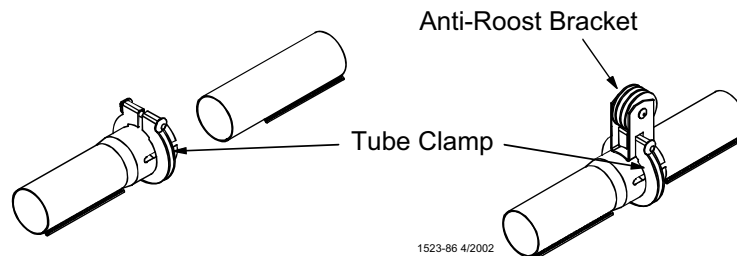

Figure 28. Assembling Feeders on the Tubes
4. Place a Tube Clamp Assembly or Clamp/Anti-Roost Bracket at each joint. **Figure 28** shows the standard Clamp and Clamp/Anti-Roost Bracket. Systems using 9' or 10' tubes require a Clamp/Anti-Roost Brackets every fifth joint.